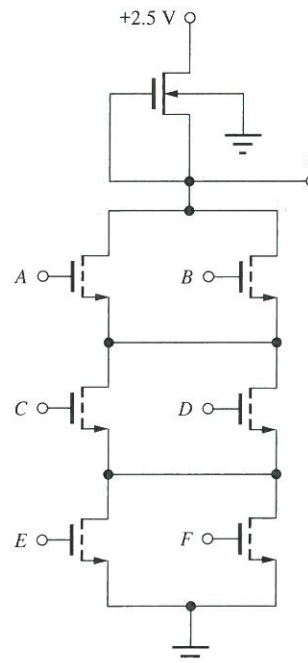

Figure P6.109
- 6.109. (a) What is the logic function that is implemented by the gate in Fig. P6.109? (b) What are the W/L ratios for the transistors, based on the reference inverter design of Fig. 6.29(d)?
- 6.110. (a) Redraw the circuit in Fig. P6.109 using a saturated load transistor. (b) What is the logic function of the new circuit? (c) What are the W/L ratios of the transistors based upon the reference inverter design in Fig. 6.29(b)?
- 6.127. What are the W/L ratios for the transistors in Fig. P6.109 if the gate is to dissipate one-fifth as much power as the reference inverter design of Fig. 6.29(d)?